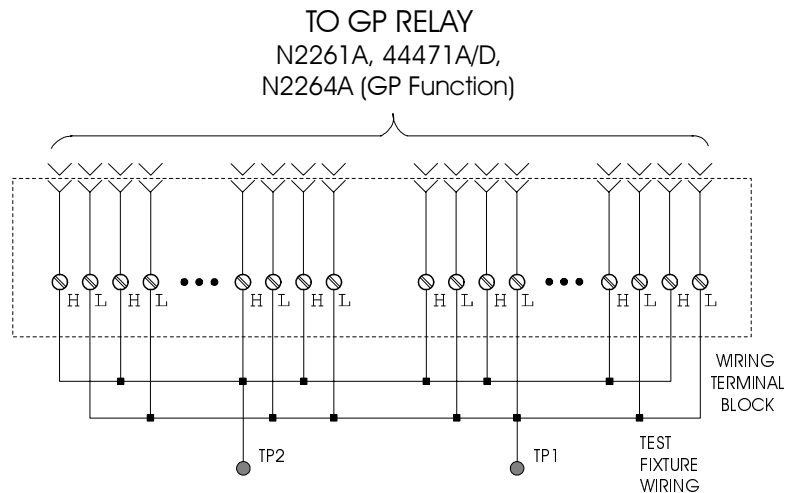

Figure 4-2. GP Relay Modules Test Fixture
The test fixture can be constructed by configuring the related GP Relay module's removable wiring terminal block as shown in Figure 4-2.
6. Connect the Multimeter between TP1 & TP2 on the test fixture (Figure 4-2);.